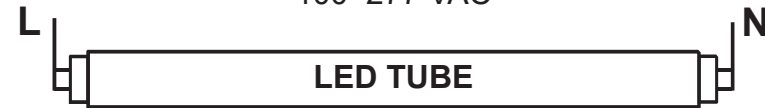

FIG 1
2. When removing existing ballast, reference FIG 1 for wiring. Apply retrofit label (included with bulb) in a visible location on the fixture after installation.